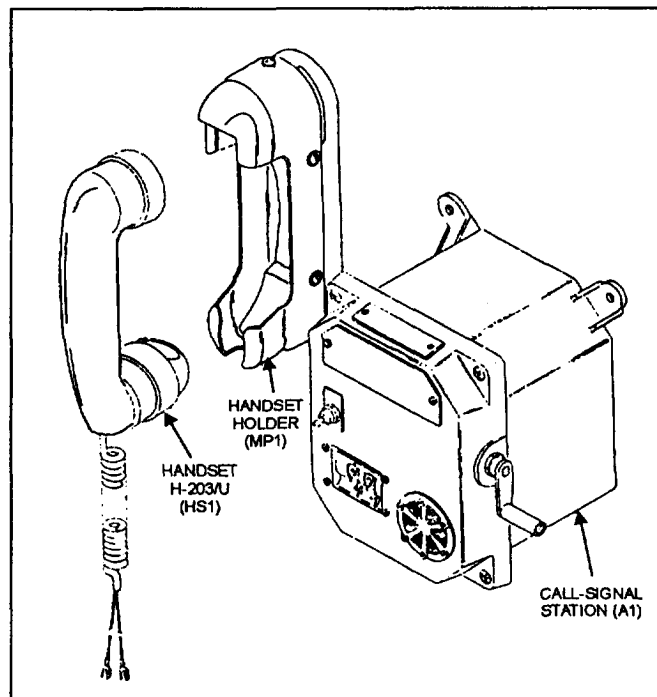

Figure 5-25.—The TA-974/WTC-2(V) sound-powered telephone set, unit 1.
**UNIT 1.**— Unit 1 (fig. 5-25) is a bulkhead-mounted terminal station consisting of three separate components: call-signal station A1, handset HS1, and handset holder MP1.